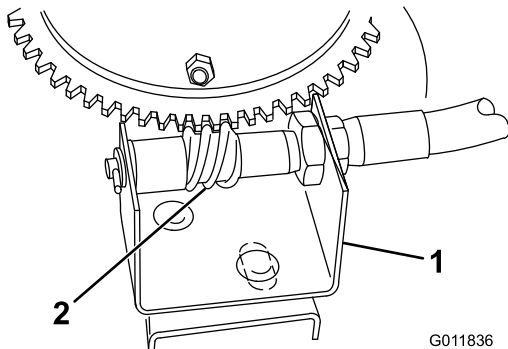

Figure 8
1. Loosen the worm bracket mounting screws (Figure 8), firmly pushing the worm gear against the teeth in the retaining ring.